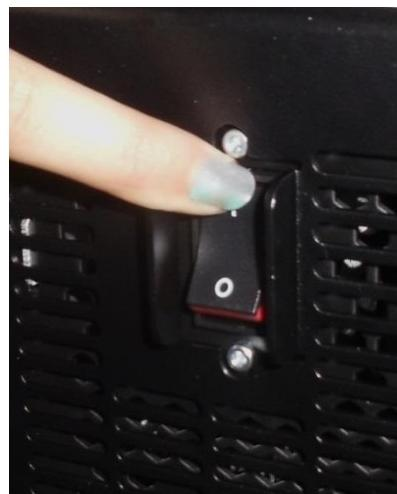

Figure 56: Power Switch
- Turn the projector on. The expected boot up time is about a 2:30 minutes (Figure 56). Please refer to the projector manufacturer manual for proper power up sequence.